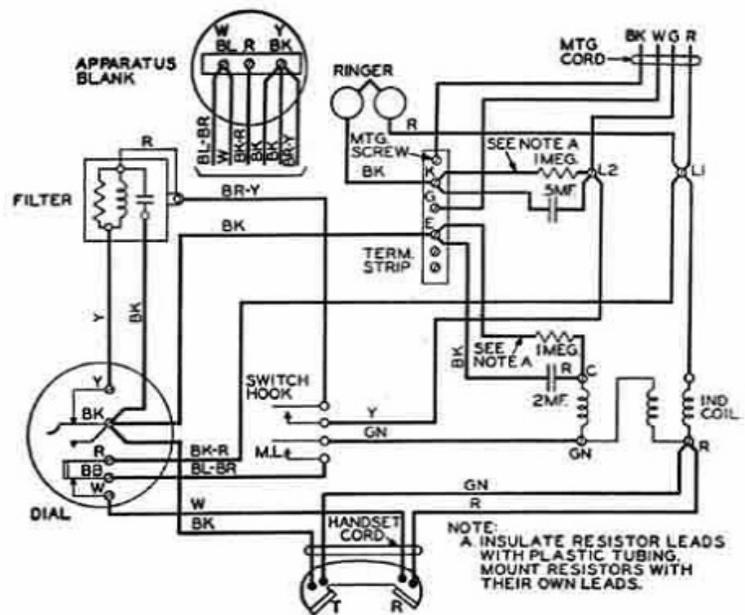

Fig. 6—KS-14476 Telephone Set with 4-conductor Cords
1.02 This section is reissued to include 4-conductor cords as shown in Fig. 6, and to include the latest maintenance information. Due to extensive changes, marginal arrows have been omitted.